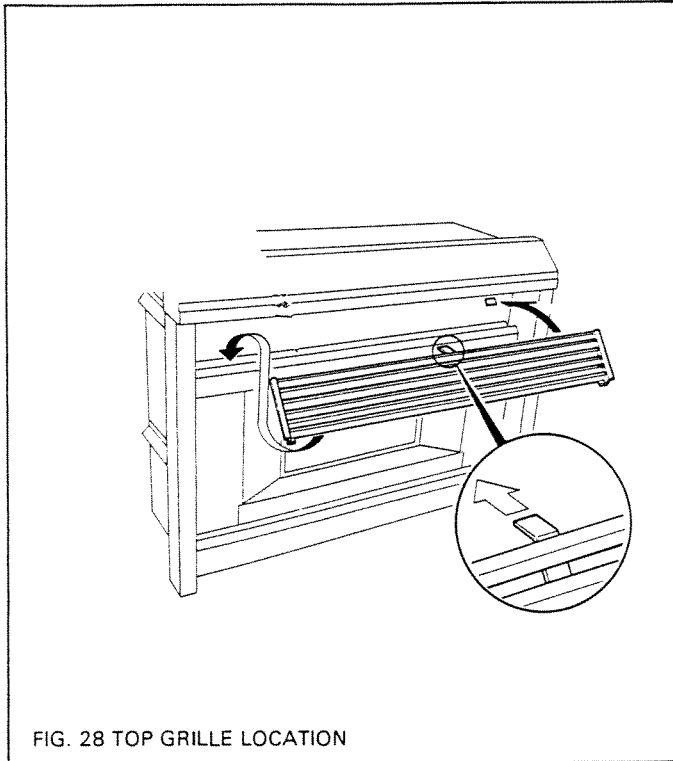

FIG. 28 TOP GRILLE LOCATION
- (c) Place the top grille in position at the top of the facia. The projecting end of the strip midway along the grille must be at the top of the grille and point into the fireplace case. The bottom of the grille should rest in the "V" channel at the top of the facia. The sides of the grille should rest against the stop brackets fixed to the inside of the case sides (see fig. 28).